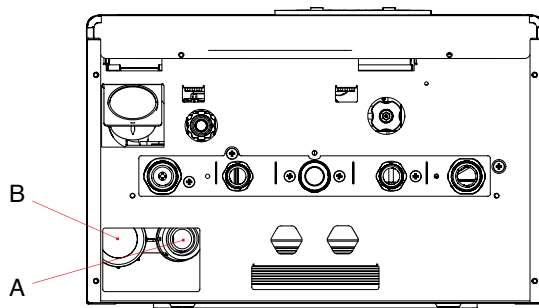

fig. 13
The condensate draining system must be connected to the appropriate connection (A) prearranged on the boiler (see fig. 13).